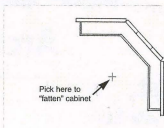

Figure 5
Object snap to the wall corners of the toe-kick, remembering to come out four inches on each side. Again, fatten the "wall" to the inside of the kitchen, as shown in figure 5. Remember that pressing mouse button 3 draws the last cap on the end.
9. Object snap to the wall corners of the toe-kick, remembering to come out four inches on each side. Again, fatten the "wall" to the inside of the kitchen, as shown in figure 5. Remember that pressing mouse button 3 draws the last cap on the end.